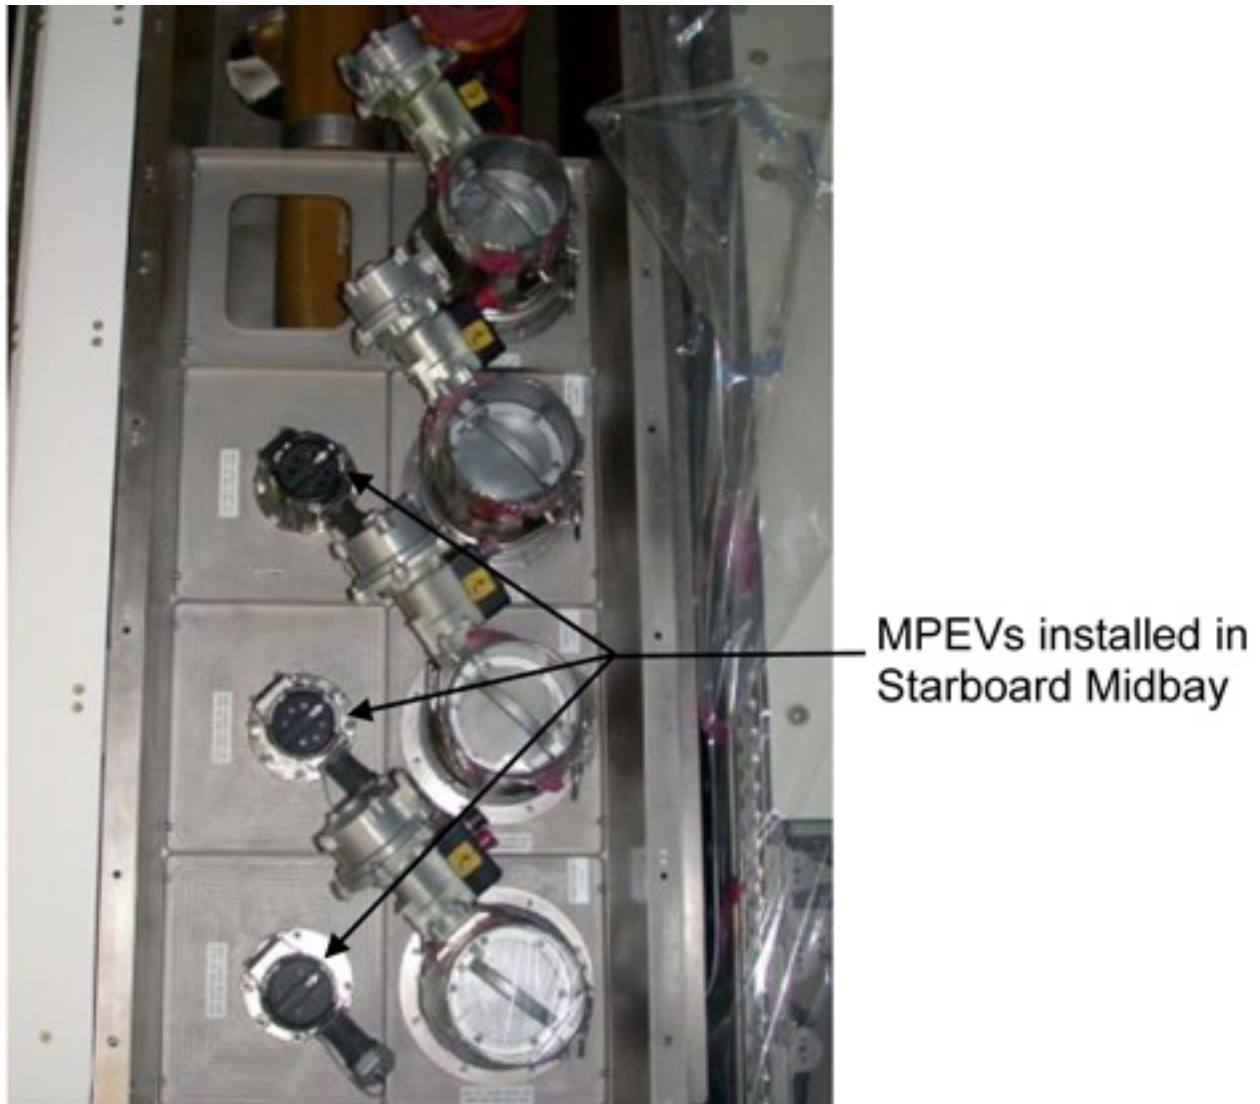

Figure 3. Starboard Midbay with Closeout Removed.
- 2.2 Remove MPEV from stowed location at NOD2S3-01, Fasteners (six) (Ratchet, 1/4" Drive; 5/32" Hex Head Driver, 1/4" Drive). Refer to Figure 3.